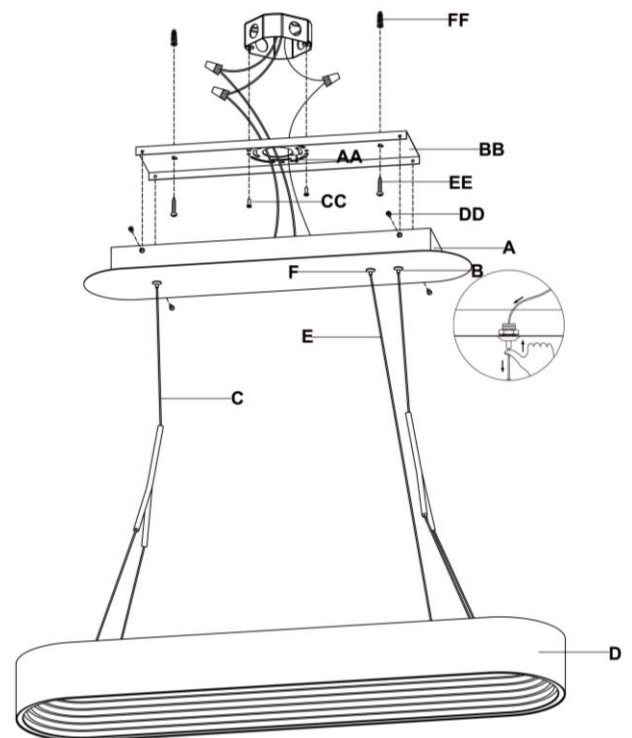

Fig. 2
CONNECTING THE WIRES (Fig. 2)
8. Connect the electrical wires as shown in Fig. 2, making sure that all wire connectors are secured. If your outlet has a ground wire (green or bare copper), connect the fixture's ground wire to it. Otherwise, connect the fixture's ground wire directly to the mounting plate (BB) using the green screw (AA) provided. Tuck the wire connections neatly into the junction box.